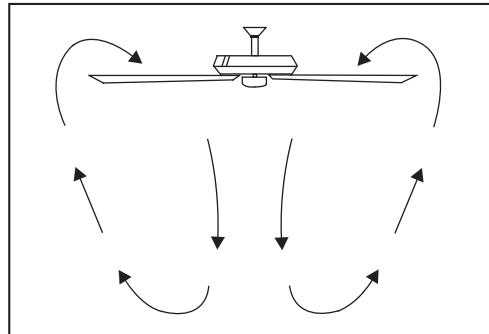

Figure 18
**Warm weather** - (Counter-Clockwise direction) A downward air flow creates a cooling effect. (Fig. 18) This allows you to set your air conditioner on a higher setting without affecting your comfort.